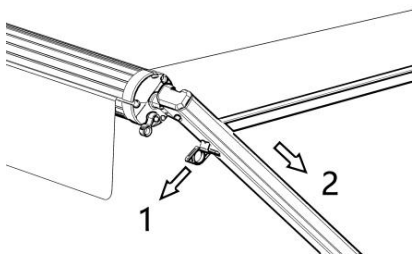

Figure D15
2.3 Loosen the tension rod screws, pull the buckle at the head of the support rod, and push back the tension rod along the support rod. (Figure D15)